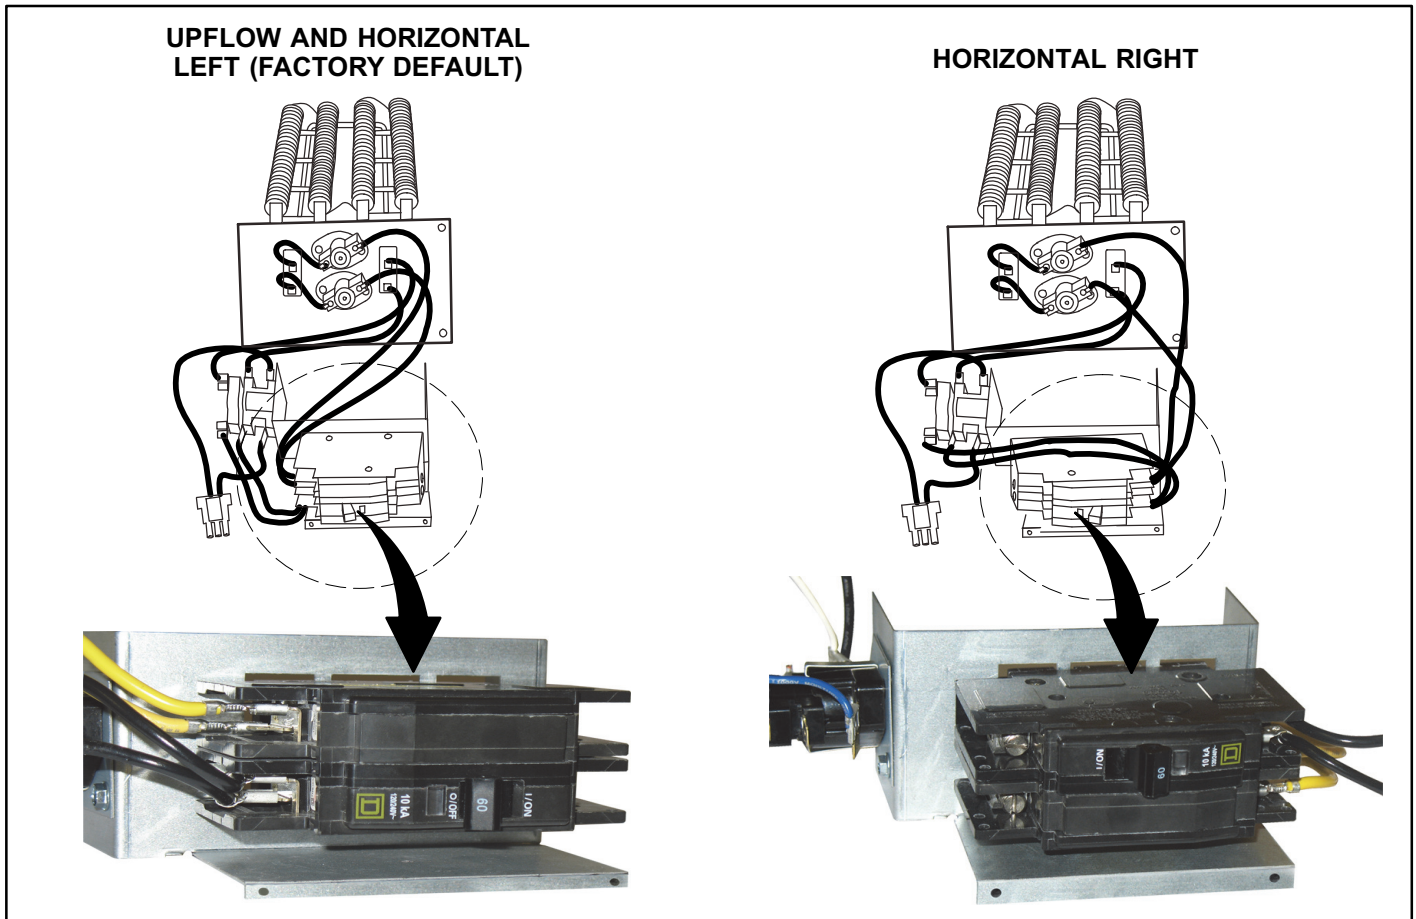

Figure 4. Circuit Breaker Orientation
1. The factory default configuration for the two circuit breakers is horizontal left-hand discharge which will require no change (see figure 4). To change the applicable circuit breakers orientation for right-hand discharge, proceed to step 2.
3. Flip the breaker so that the wires attached to the circuit breakers terminals are on the left side (see figure 4).